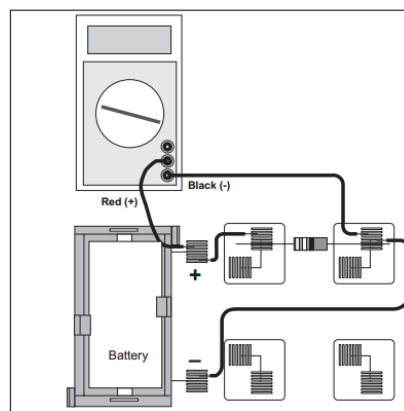

Figure 11.1b
5. **MEASURING VOLTAGE:** Disconnect the Multimeter and connect a wire from the positive lead (spring) of the battery directly to the first resistor you used as shown in Figure 11.1b. Change the Multimeter to the 2 VDC scale and connect the leads as shown also in Figure 11.1b. Measure the voltage across the resistor and record it in Table 11.1.